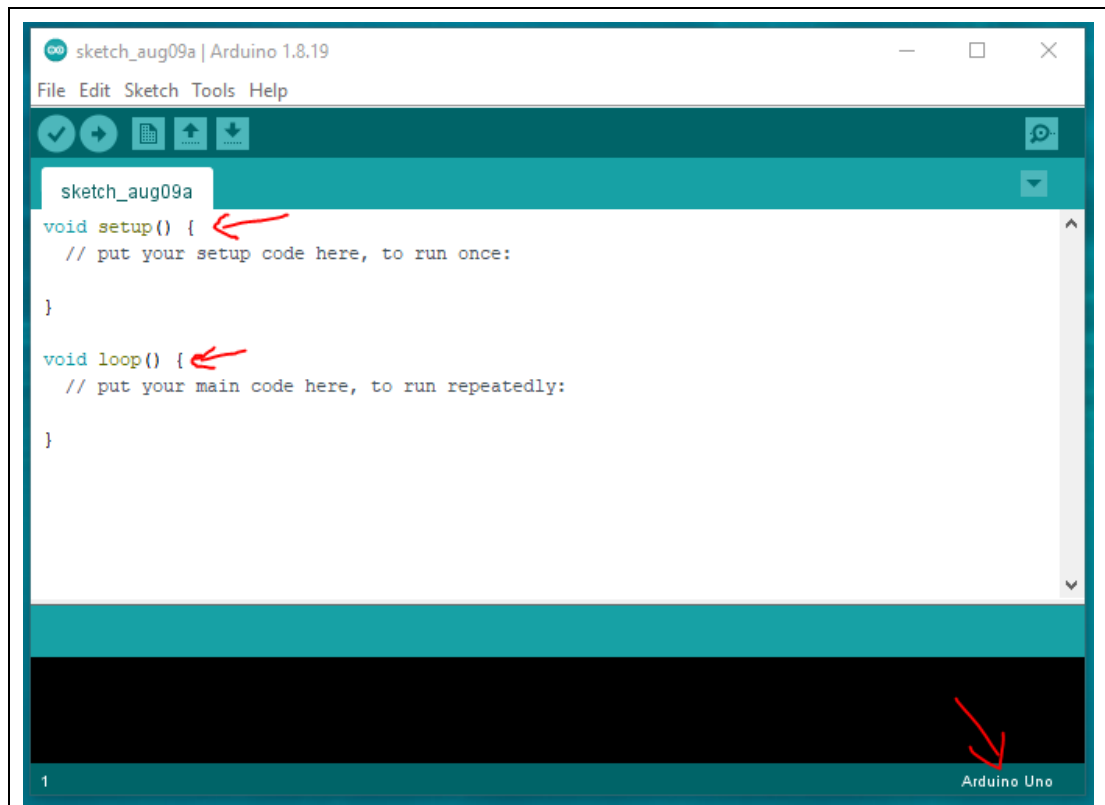

Figure-1.3. An Arduino empty project.
4. Start Arduino with 'arduino.exe' as in Figure-1.2. Figure-1.3 is an empty Arduino project. At the bottom line, it shows some information of your current settings of the IDE. **The setting information is very important for troubleshooting if one fails in compilation (sketch) or upload.**
5. The function calls named **setup()** and **loop()** at the upper of the program area (Figure-1.3) are different from traditional C-language program which starts at **main()**.